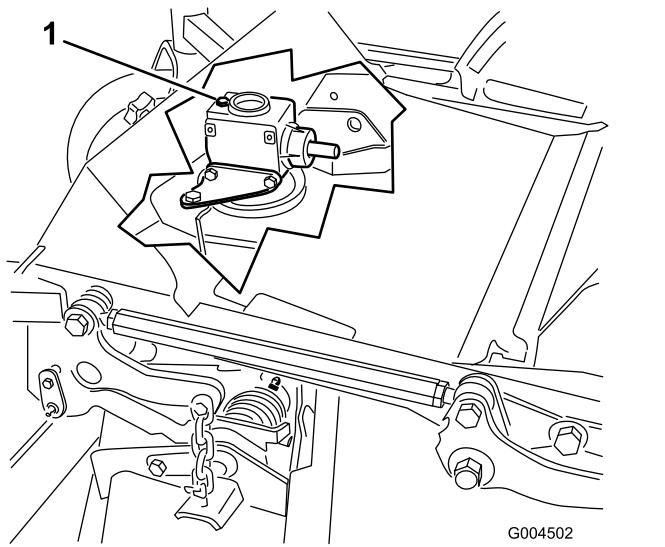

Figure 31
6. Remove the dipstick/fill plug from the top of the gearbox and make sure that the lubricant is between the marks on the dipstick (Figure 31).
6. Remove the dipstick/fill plug from the top of the gearbox (Figure 31).